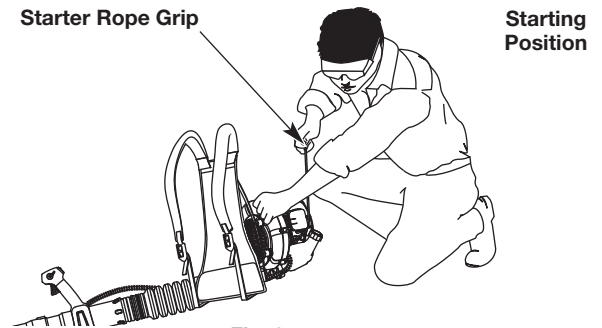

Fig. 9
WARNING: Avoid accidentally starting the unit. To avoid serious injury, the operator and the unit must be in a stable position when pulling the starter rope (Fig. 9).
6. Crouch in the starting position (Fig. 9).
7. Pull the starter rope with a controlled and steady motion **5 times** (Fig. 9).